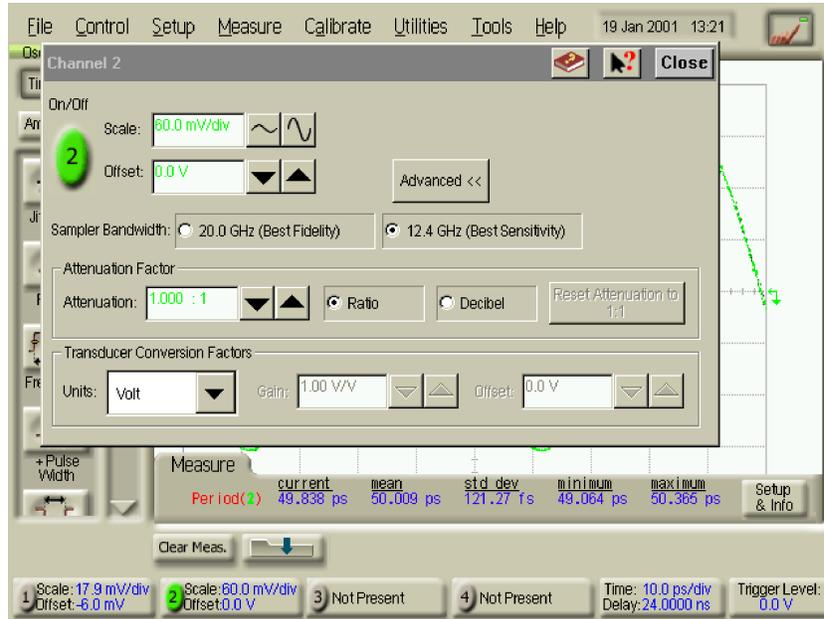

Figure 2-7. Setting Best Sensitivity for Measuring Time Interval Accuracy
- 18 On the DCA screen, press Setup, the channel in use, then press Advanced. See Figure 2-7.